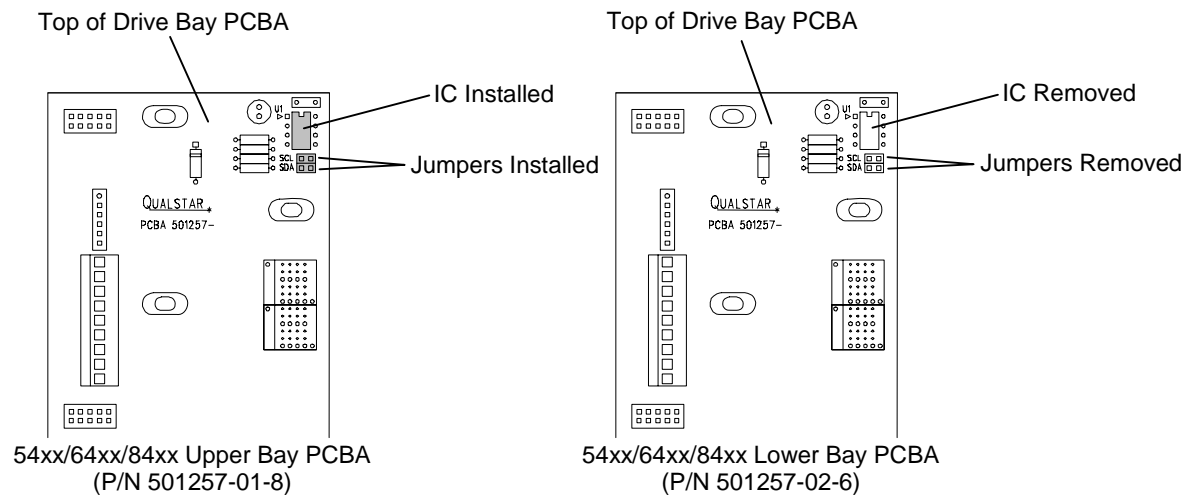

Figure 7-57 54xx, 64xx and 84xx Model Drive Bay PCBA Jumper and IC Configuration
1. Before replacing the Drive Bay PCBA, determine that the board has the proper jumper and IC (integrated circuit) configuration. For the Upper Bay Board (P/N 501257-01-8) jumpers must be installed on the board at the SCL and SDA connectors and the IC component must be installed at location U1. For the Lower Bay Board (P/N 501257-02-6) jumpers must not be present at the SCL and SDA connectors and the IC component must be removed at location U1. See Figure 7-57.